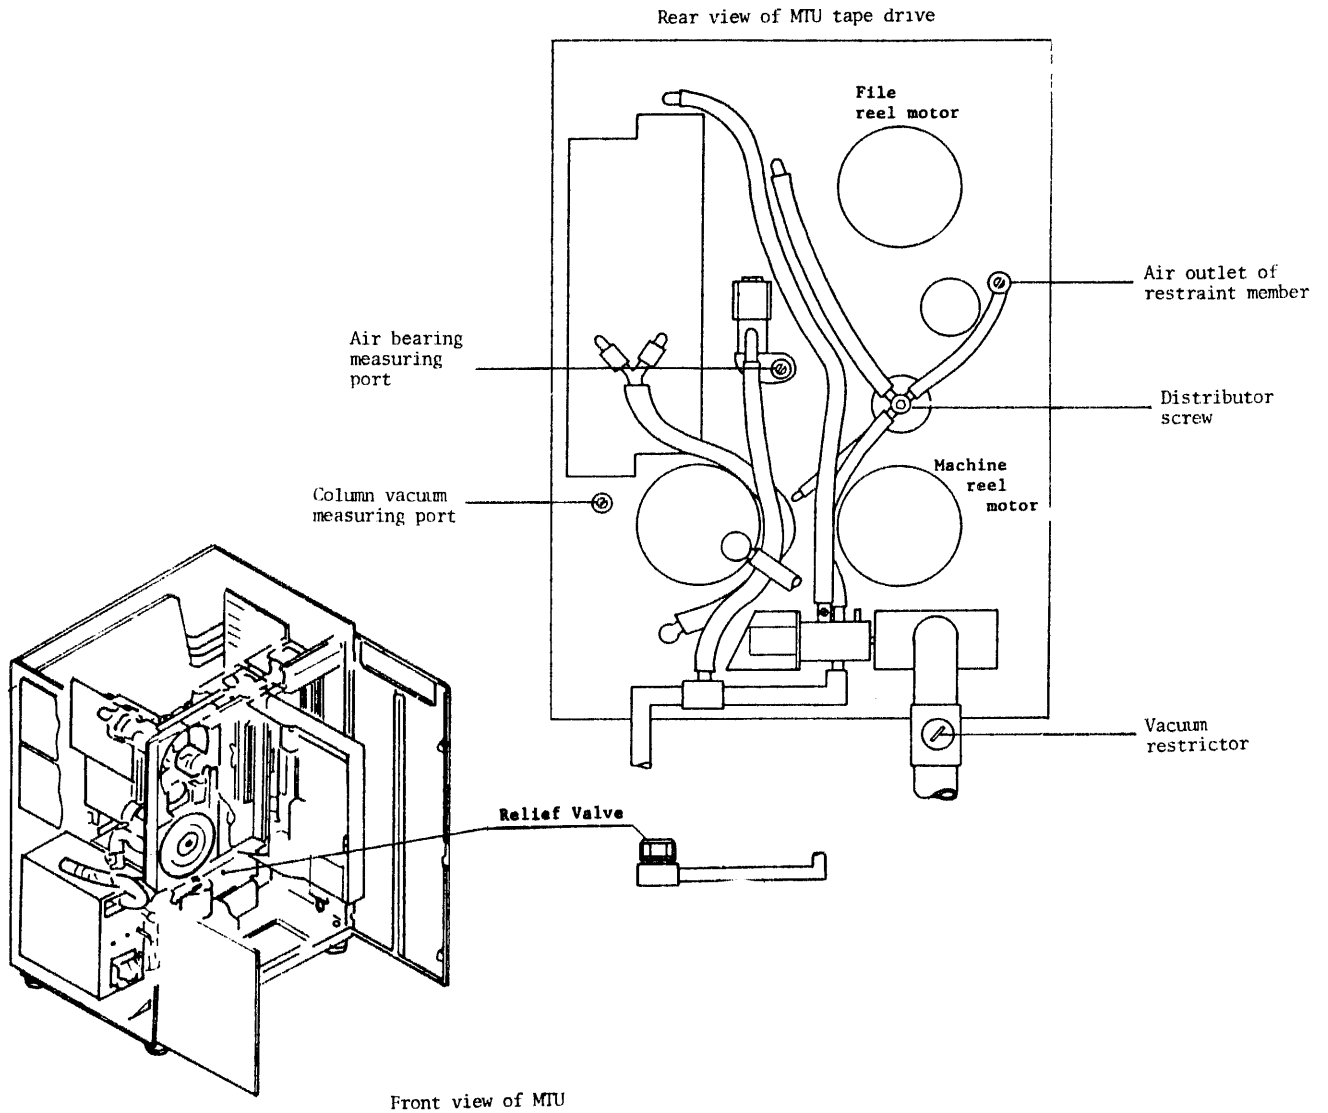

Figure 4-6. Pressure check and adjustment points.
- (1) Remove the white nylon screw from the column vacuum measuring port shown in Figure 4-6.
- (2) Connect the vacuum gauge to the column vacuum measuring port.
- (3) Refer to the pressure check level in Table 4-1 for column vacuum.
- (4) If necessary, adjust the vacuum restrictor so that vacuum pressure is within air pressure adjustment level listed.
- (2) Remove the white nylon fitting and connect the pressure gauge to the air-bearing measuring port.
- (3) Refer to the pressure check specification in Table 4-1 for air bearing pressure.
- (4) If necessary, adjust the pressure-relief valve shown in Figure 4-6 until the pressure is within the air bearing pressure adjustment level listed.